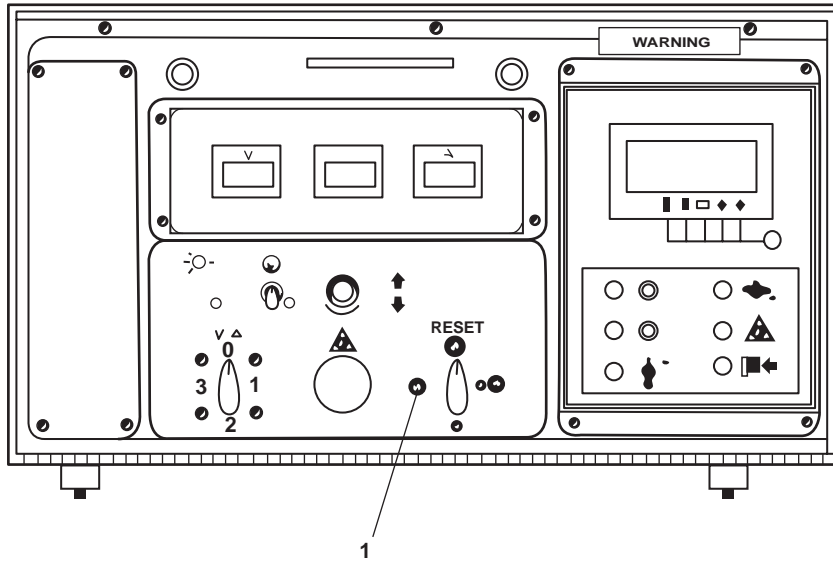

Figure 2. Emergency Diesel Generator Control Panel
2. In the emergency diesel generator room, at the emergency diesel generator control panel, set the RESET control switch (figure 2, item 1) to OFF.